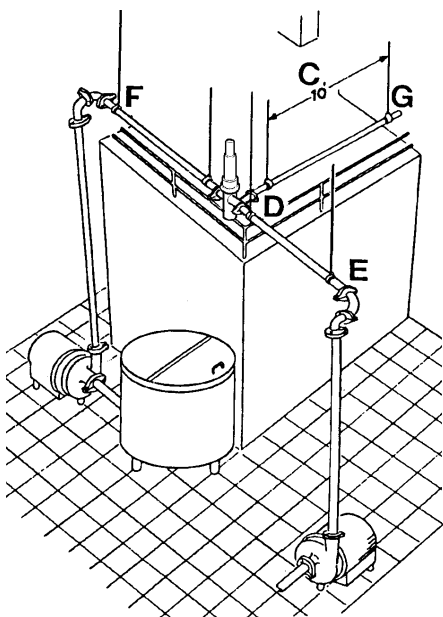

Figure 2 - Pipeline Support
1. Install supports at least every 10 feet on straight runs of piping. (Figure 2, item C).
2. Install supports on both sides of the valves as close as possible to the connections. (Figure 2, item D).
3. Install supports at each change of pipeline direction. (Figure 2, item E and F).
4. For pipelines passing through walls, floors or ceilings, provide at least 1 inch (25 mm) of clearance around the pipe to allow for expansion and contraction. (Figure 2, item G).